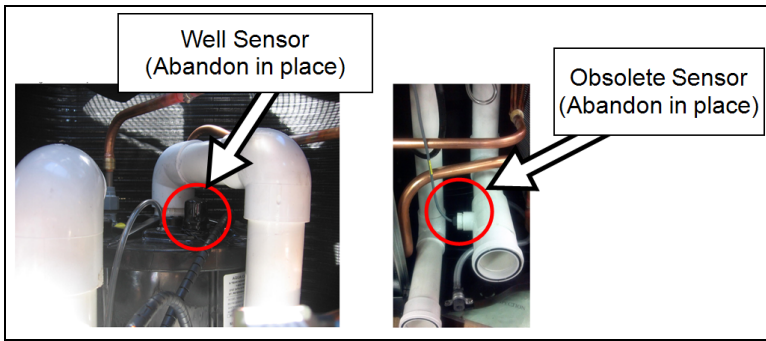

Figure 13- Well Sensor
11. If the existing water temp sensor is mounted inside a temperature well (**Figure 13**) or is a different style than the sensor shown in the kit (See "*ECP0394 Water Temperature Sensor*" on page 3.), abandon it in place and install both new water temp sensors on the "Water In" pipe, just inside the electrical panel as shown in **Figure 12**.